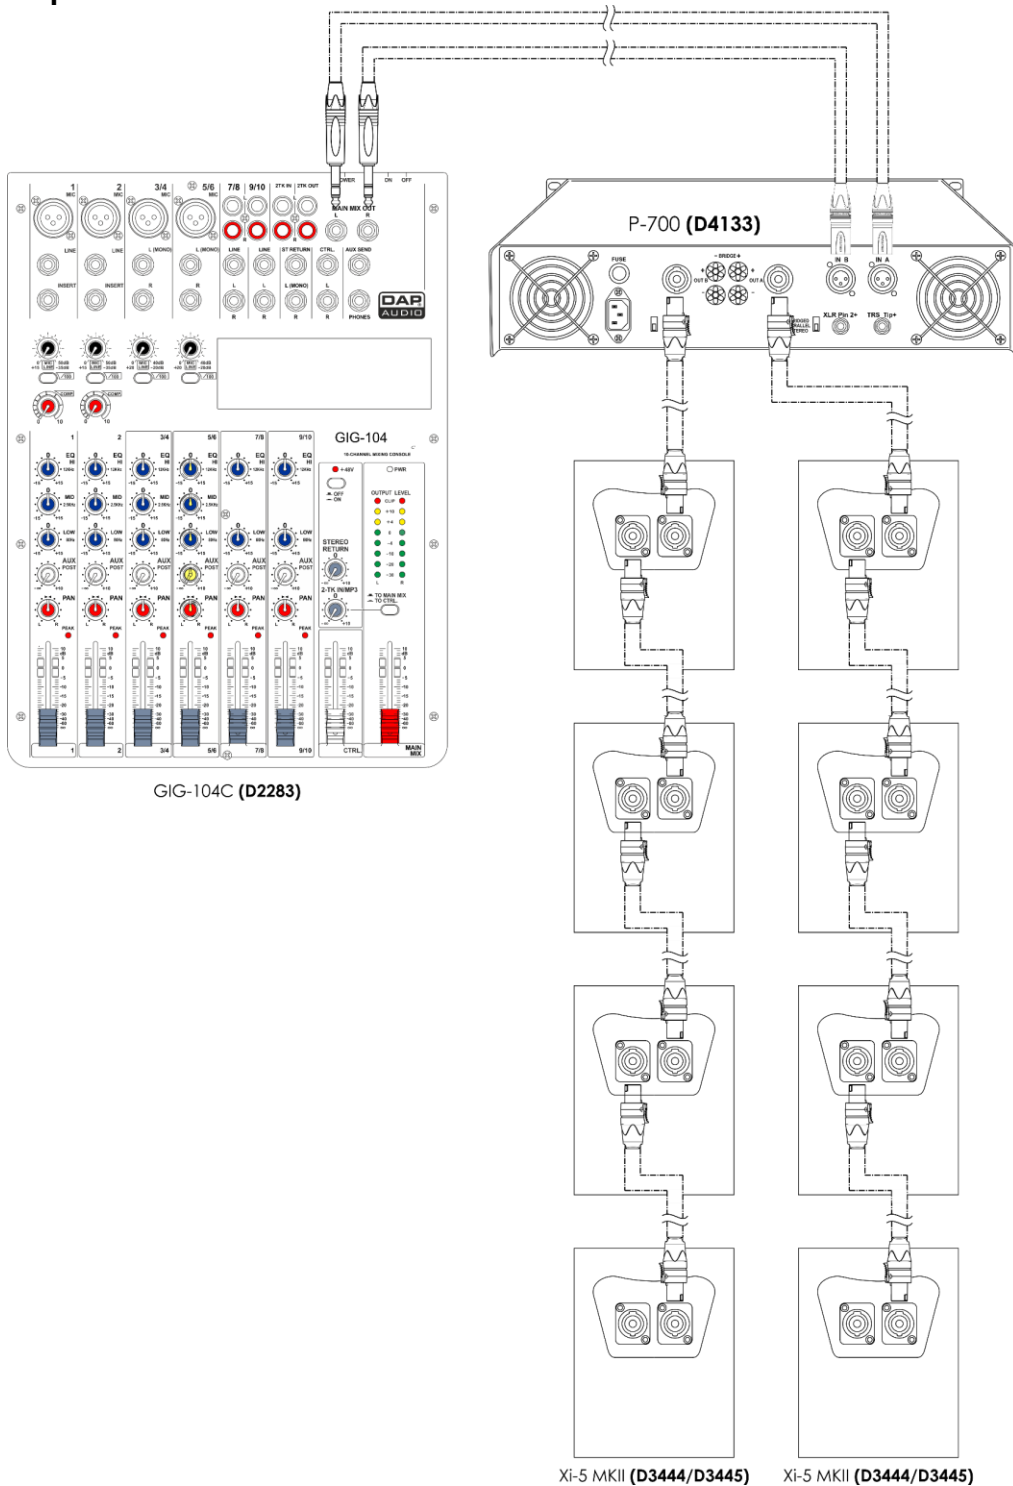

Fig. 02
- 04) See fig. 02, 03, 04 or 05 (pages 8-11) for more information, depending on the Xi MKII model which you have purchased.